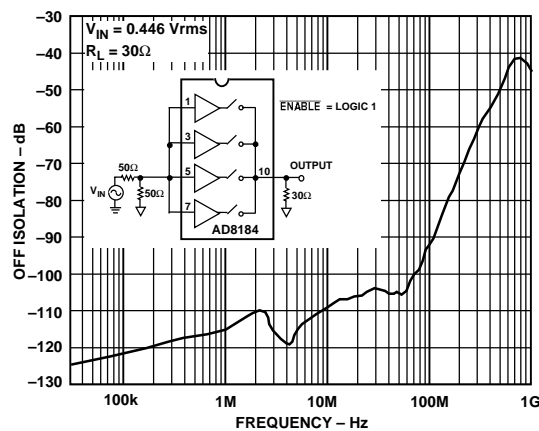

Figure 13. "OFF" Isolation vs. Frequency
- ⁷Multiplexer is disabled (i.e., ENABLE = logic 1) and all inputs are driven simultaneously with V_{IN} = 0.446 V rms. Output is monitored at f = 5 and 30 MHz. R_L = 30 Ω to simulate R_{ON} of one enabled multiplexer within a system (see Figure 13). In this mode the output impedance is very high (typ 10 MΩ), and the signal couples across the package; the load impedance determines the crosstalk.